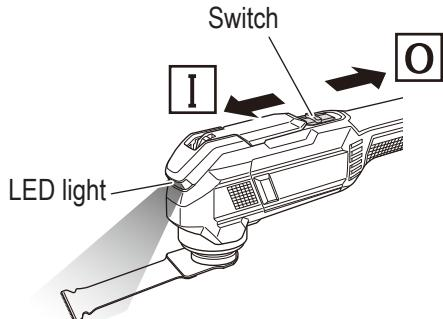

Fig. 12
Sliding the switch towards **I** will switch on, simultaneously activating the LED light which will light the application tool. (Fig. 12)
- (1) Switch the unit on and use the dial to set the speed of the application tool. (Fig. 12 and 13)